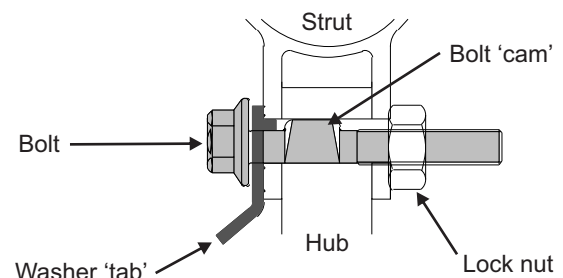

Fig 2. Positive Camber
- for positive camber adjustment, install with large tab towards the wheel. Refer Fig 2. (page 2)
- for positive camber adjustment, install with large tab towards strut. Refer Fig 2.